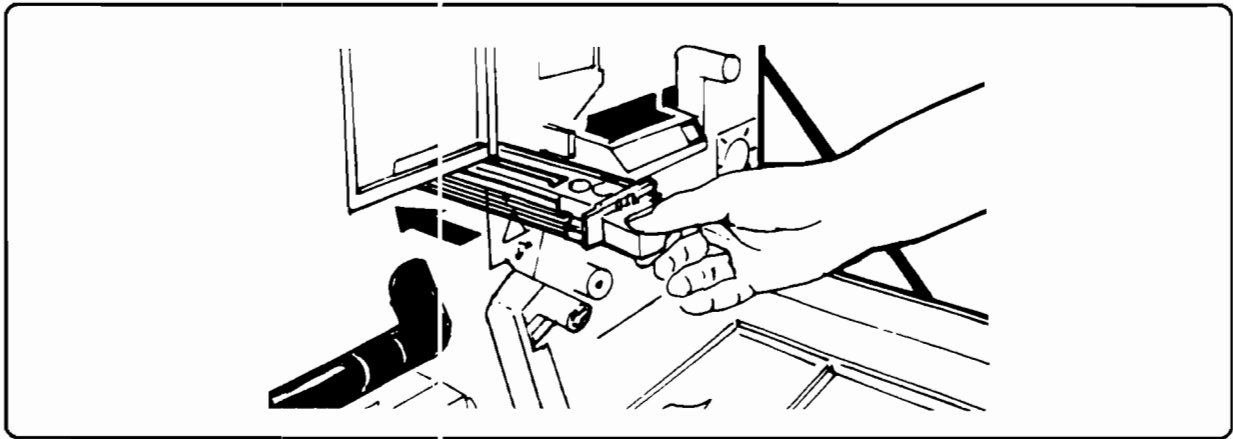

Figure 7. Replacing the Primary Corona
6. After cleaning, turn the primary corona assembly over (grid wires down) and slide it back into place along its guide rails until it stops (see Figure 7).